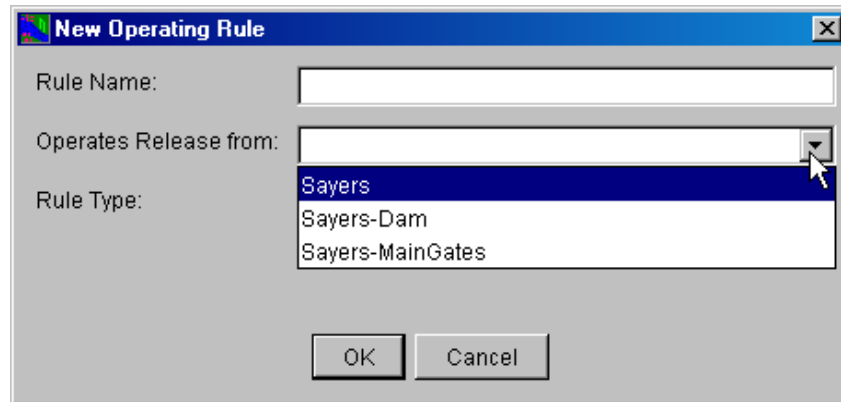

Figure 11.9 New Operating Rule Dialog Box
3. Select the control element of the reservoir to which you will assign this rule (reservoir pool, dam, outlet group, outlet) from the **Operates Release from** list (Figure 11.9).